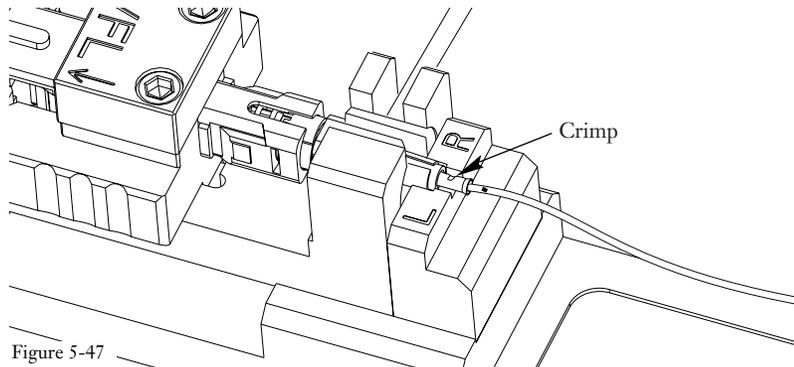

Figure 5-47
**5.8-6** Flip the crimp handle back. You should see a flat impression in the crimp tube, indicating a proper crimp (Figure 5-47).